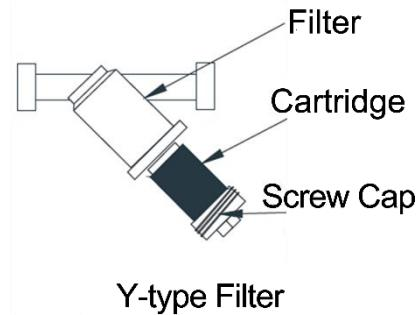

Figure 8-3 Filters commonly used in our company
- Regularly clean the filter in the waterway of the equipment . Generally , the filter should be cleaned once every 7 to 10 days . The commonly used filters of our company are as shown in Figure 8-3. The Y-type filter is placed at the water suction port of the water pump or the water outlet of the equipment ;